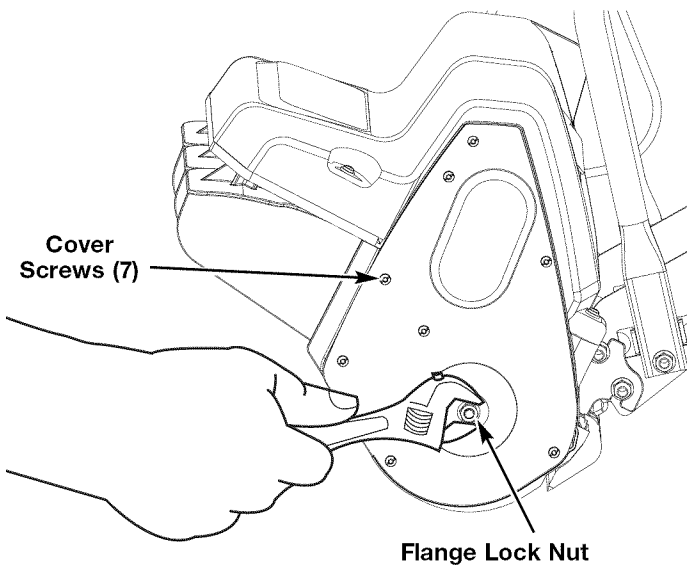

Fig. 10
1. Remove the flange lock nut from the belt case cover with a wrench or nut driver (Fig. 10).
2. Remove the seven (7) screws from the belt case cover using a #T20 Torx bit or flat blade screwdriver (Fig. 10).